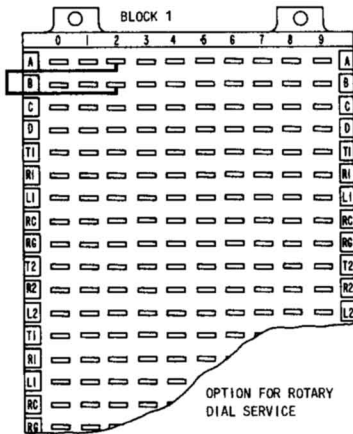

Fig. 12—Z Option
Note: If a 494A KTU is used, a 440A or 478B TOUCH-TONE adapter is not required. (If a TOUCH-TONE adapter is not provided, Z option [Fig. 12] must be applied.)
Note: If a 494A KTU is used, a 440A or 478B TOUCH-TONE adapter is not required. (If a TOUCH-TONE adapter is not provided provide Z option [Fig. 12] must be applied.)
- 4.10** The Z option (Fig. 12) is required when rotary dial service is provided. It consists of a strap on block 1 of the 626A panel between row A, terminal 2, and row B, terminal 2. The Z option must be removed if the intercom is changed to TOUCH-TONE dialing.